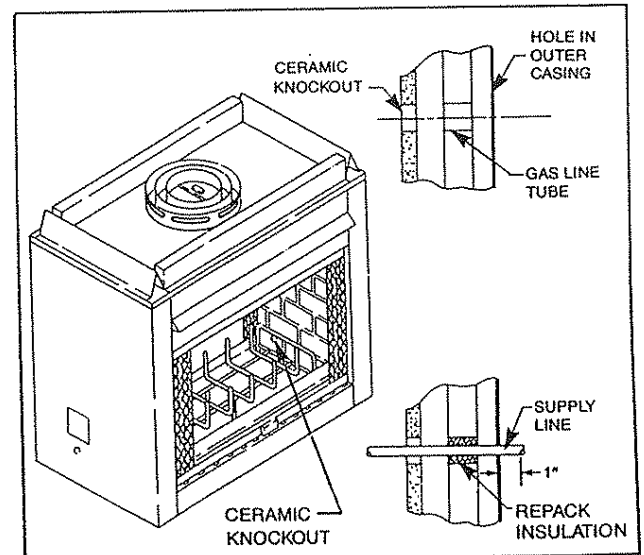

Fig. 24. Install iron pipe gas line through provided hole in right side of fireplace.
NOTE: The gas pipe should not come in contact with any wood structures until it has reached a point at least one (1) inch away from the fireplace side. (See Fig. 24 for installation clarification.)